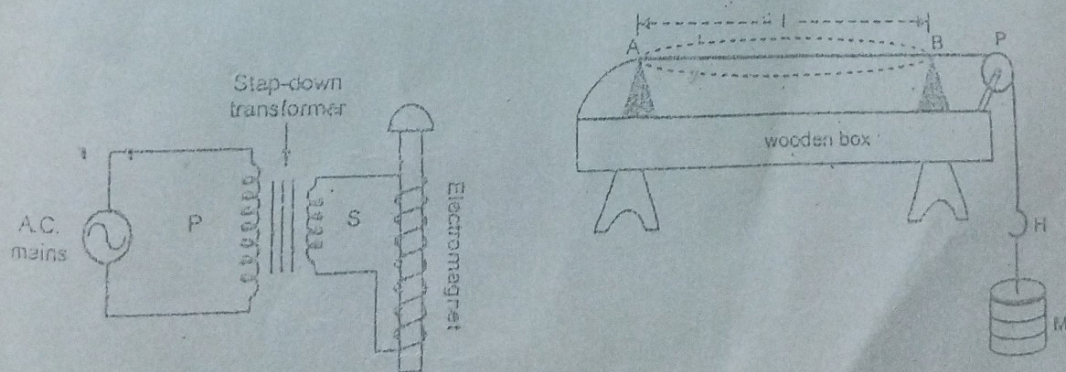

Fig. 3.1
1. Set-up the sonometer as shown in Fig. 3.1.